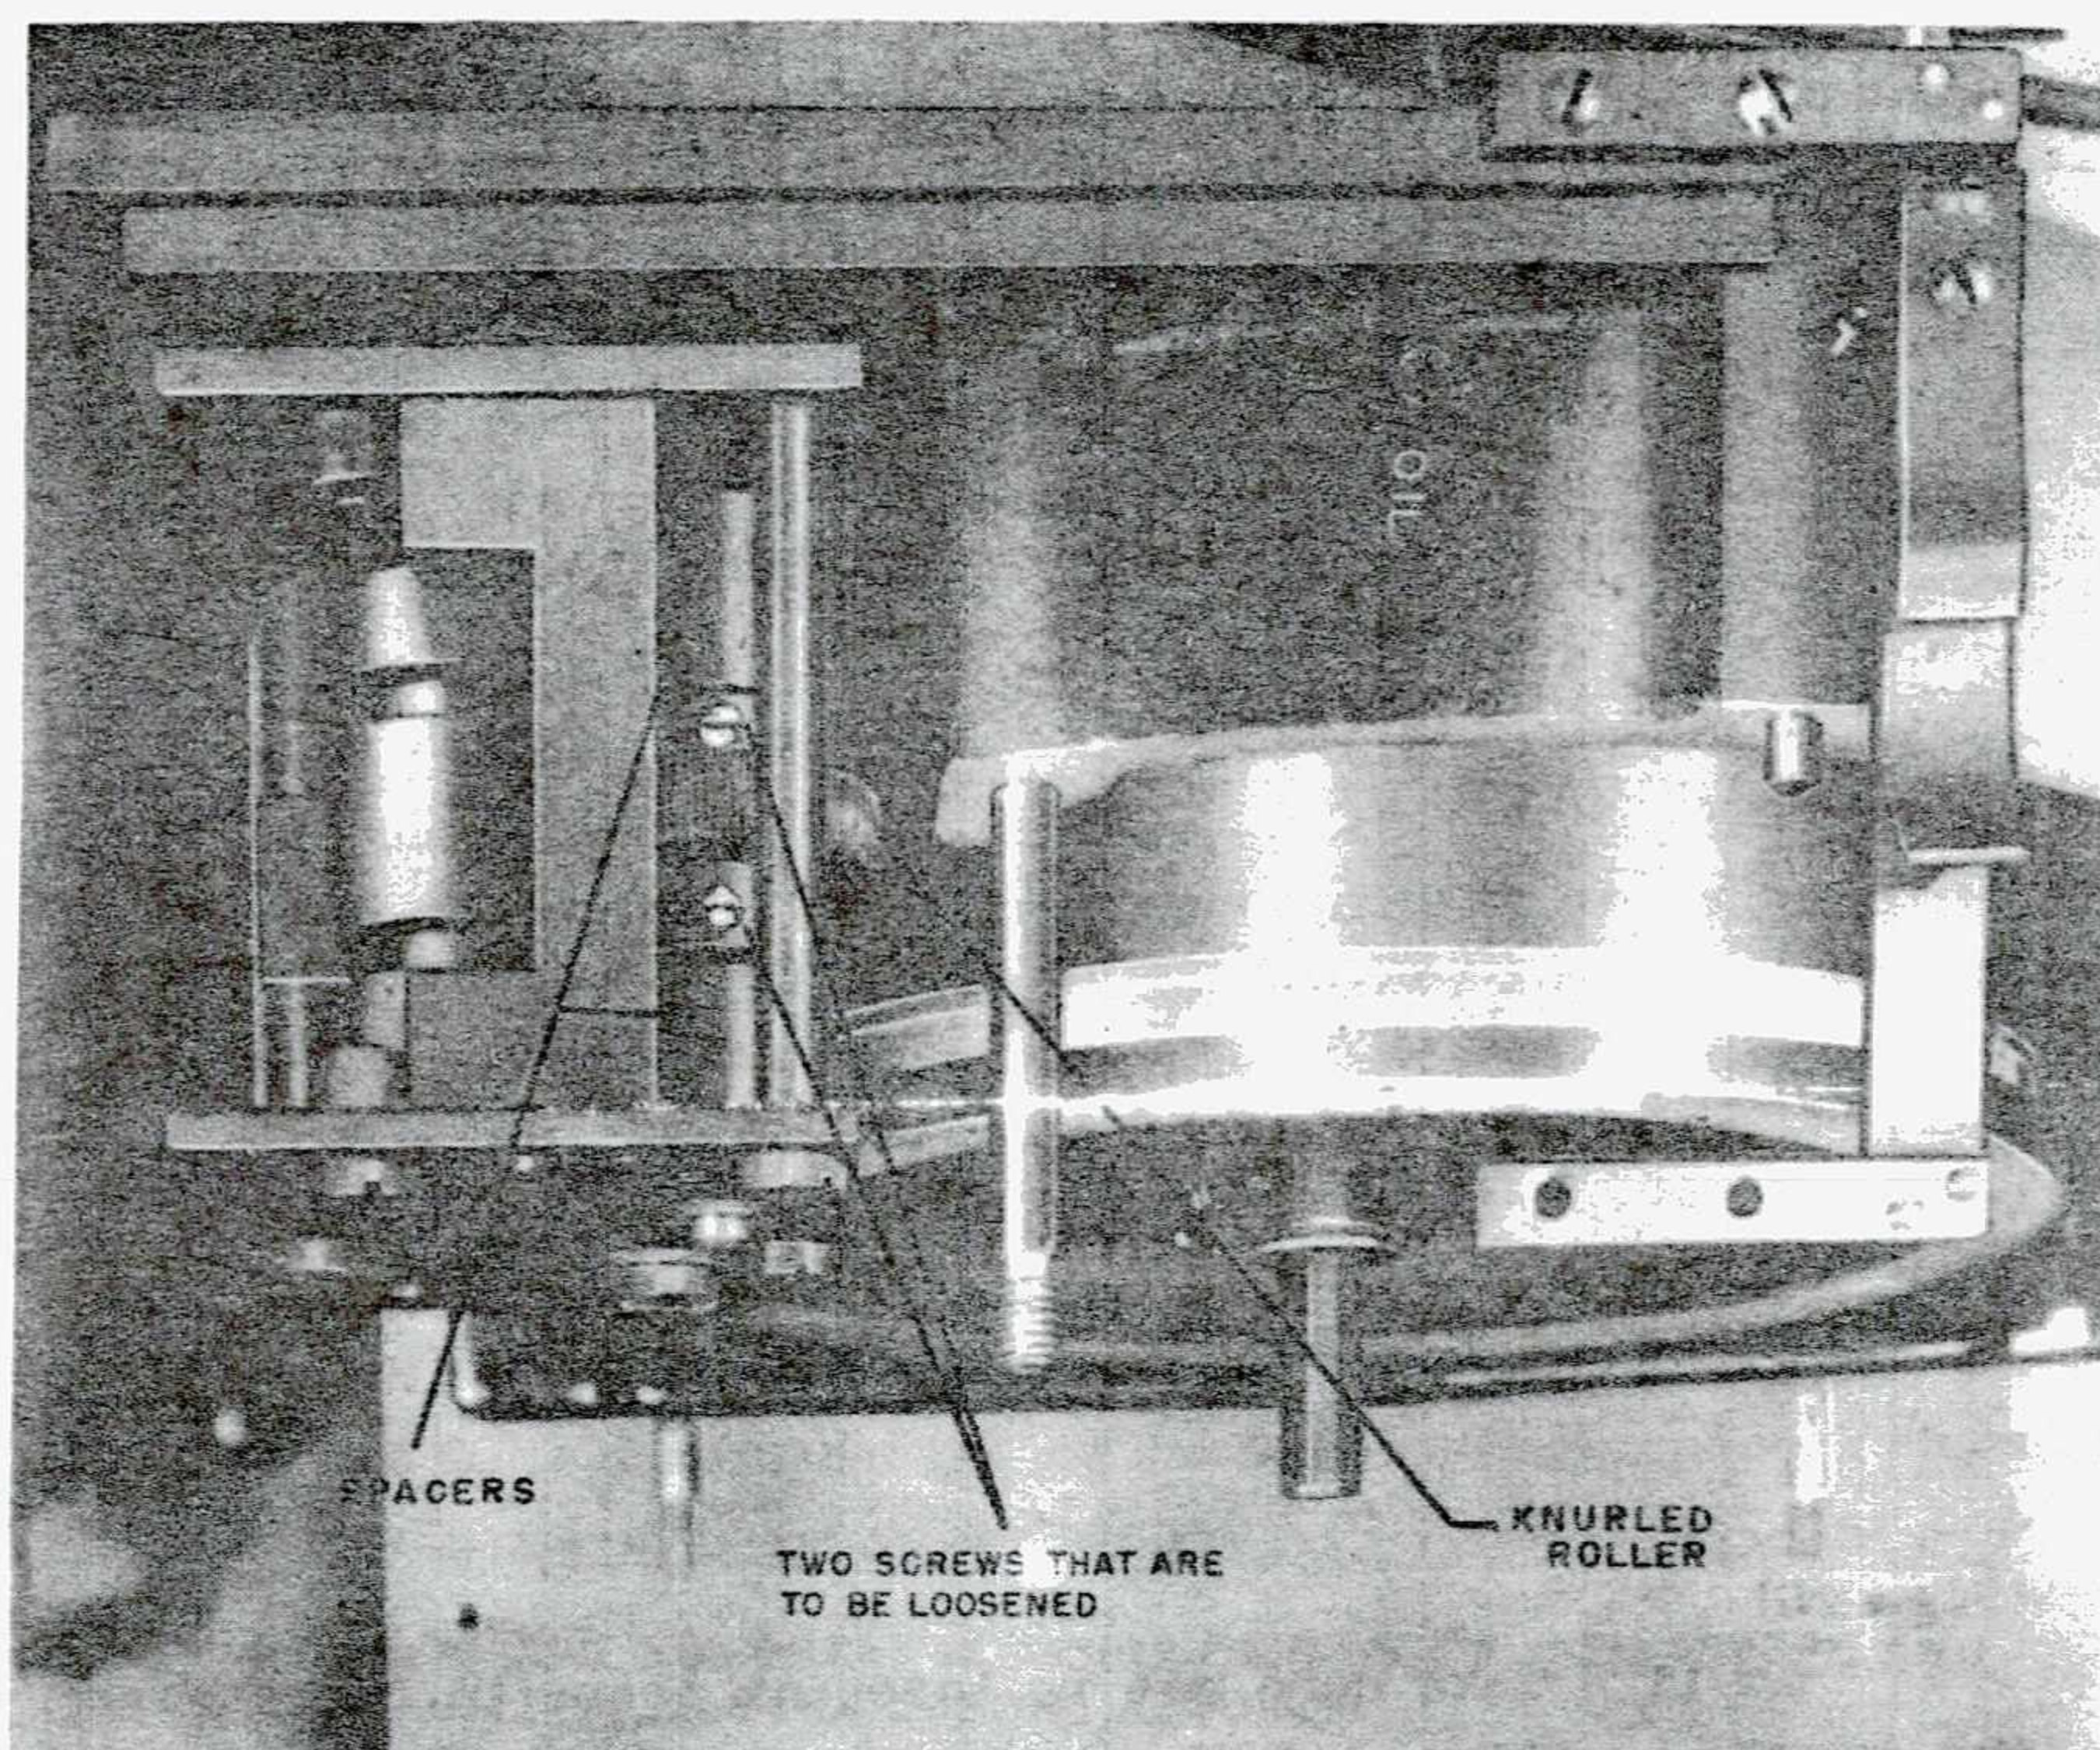

FIG. 24 OSCILLOGRAPH EQUIPMENT IE-14-(*) TOP VIEW OF CAMERA, FRONT CASTING REMOVED SHOWING SCREWS IN THE HUB OF THE KNURLED ROLLER.
(2) Loosen the two screws in the hub of the knurled roller of the cut-off mechanism. (Fig. 24)
(4) Take care not to lose, or leave in the camera, the knurled roller and the two spacers which are normally on the shaft of the cut-off mechanism and which are completely detached when the mechanism is removed. (Fig. 24)
(1) Pull the small roller on the bottom of the cut-off mechanism to the left as far as it will go to clear the edge of the rubber wheel so you can put the mechanism in its place. Don't forget to put the knurled roller and the two spacers in place before putting the cut-off mechanism on the shaft. THE SHAFT MUST PASS THROUGH THE ROLLER WITH SPACER ON EACH SIDE BEFORE IT GOES IN TO THE FRONT BEARING OF THE MECHANISM. (Fig. 24)
(2) Tighten the two screws in the hub of the knurled roller of the cut-off mechanism. (Fig. 24) Be sure the screws seat on the flat places on the shaft.